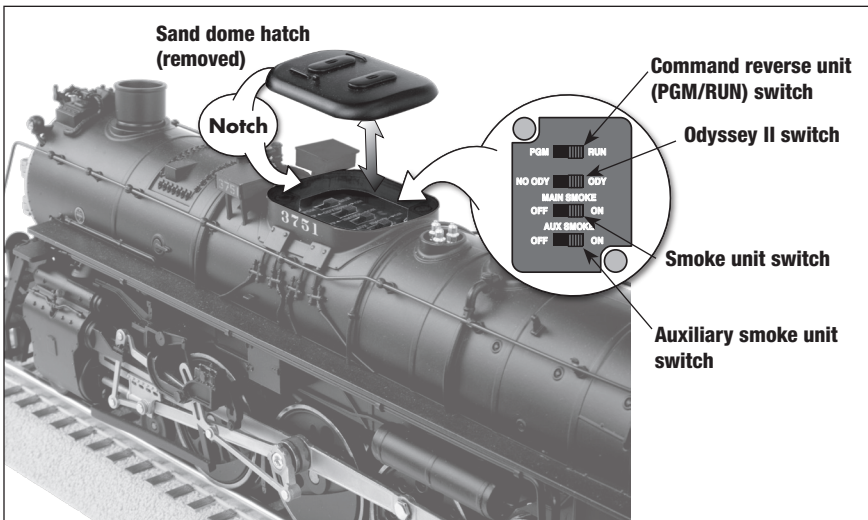

Figure 6. Locomotive switch locations
**We recommend that you operate your LEGACY locomotive with The Odyssey II Speed Control System turned on.** You may choose to operate your locomotive without speed control by placing the Odyssey II Speed Control System switch to the NO ODY (OFF) position. See Figure 6 on page 8 for the location of this switch.
If you prefer to operate your locomotive without smoke, locate the smoke unit switches under the sand dome hatch on the top of the locomotive and slide them to the OFF position. Refer to Figure 6 on page 8 for the location of the switches. Main stack smoke and the Whistle Steam effect are controlled independently.
**T**he functions of your locomotive's switches are outlined below. Refer to Figure 6 for the location of the switches. *The instructions below are specific to this particular locomotive; note that available features (and switches) may differ from other locomotives and sets.*
1. Slide the program run switch on your locomotive to the PGM position. See Figure 6 on page 8.